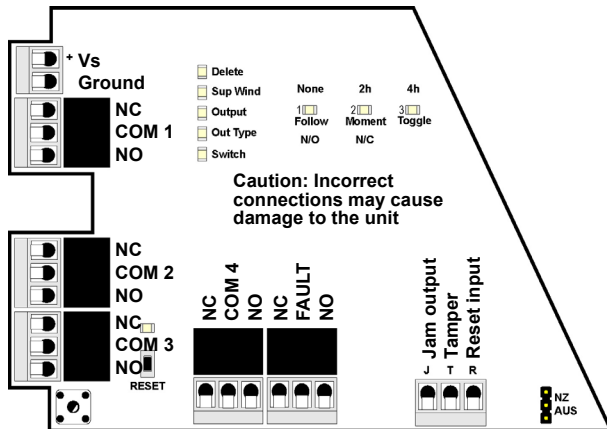

Figure 7 EN4204R terminals
3. Connect a momentary switch to the reset input and ground (Figure 7, "EN4204R terminals"). Must be configured for UL installations.